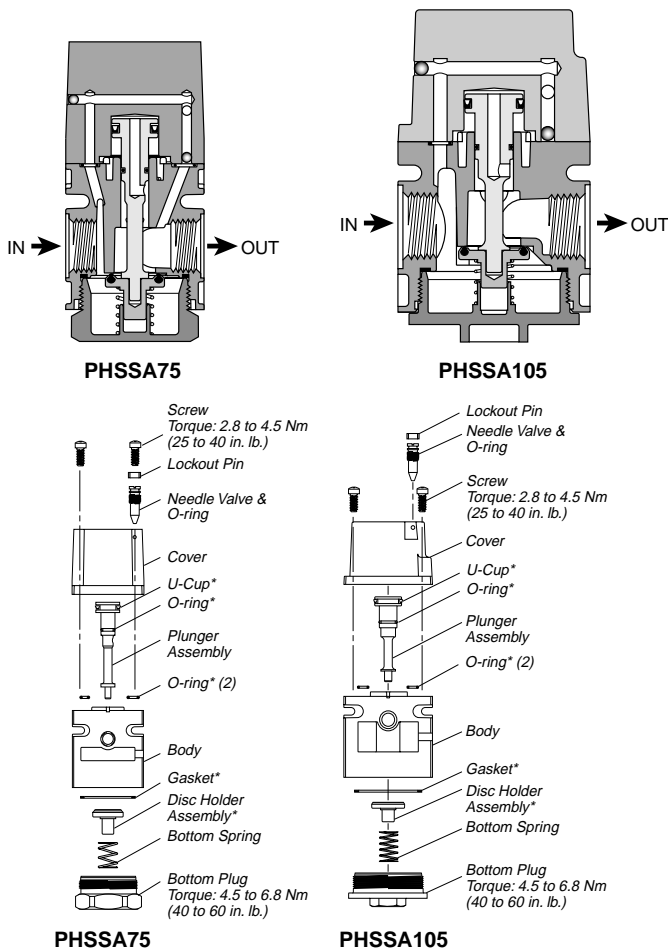

Figure 3
5. Install Gasket into Body. Then install Disc Holder, Bottom Spring and Bottom Plug in to Body. See Figure 3 for torque value.
6. Install Plunger with Seals into the Body. Install two O-rings between Body and Cover (make sure air passages are aligned properly), install four Screws and tighten per Figure 3.